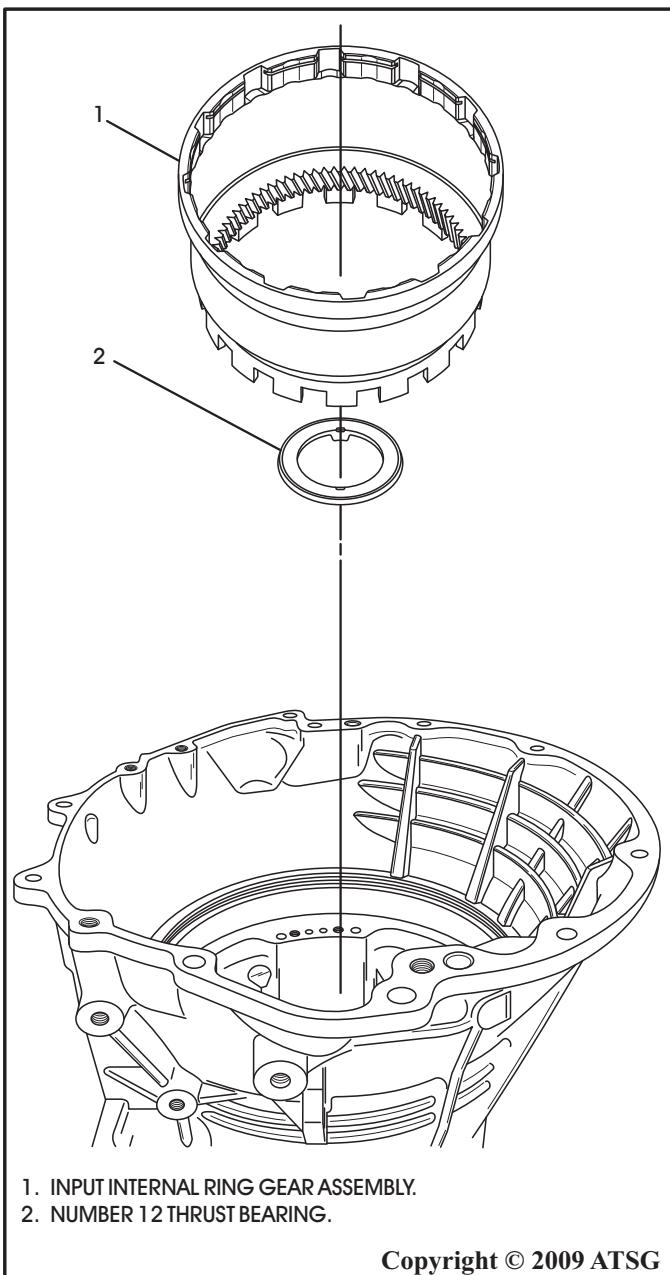

Figure 44
47. Remove the input internal ring gear assembly from the transmission case (See Figure 44).
48. Remove the number 12 thrust bearing from the low/reverse clutch housing assembly as shown in Figure 44.